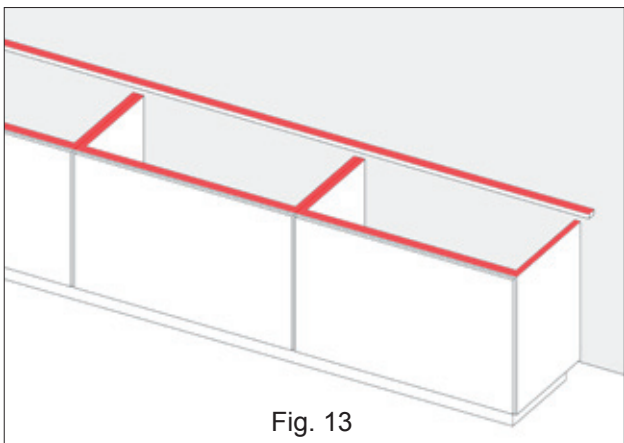

Fig. 13
- 3c. The worktop should have full support on the left, right, front and back side of the PITT cooking unit (**fig. 13**). This prevents tension in the worktop from the weight of the cooking unit.